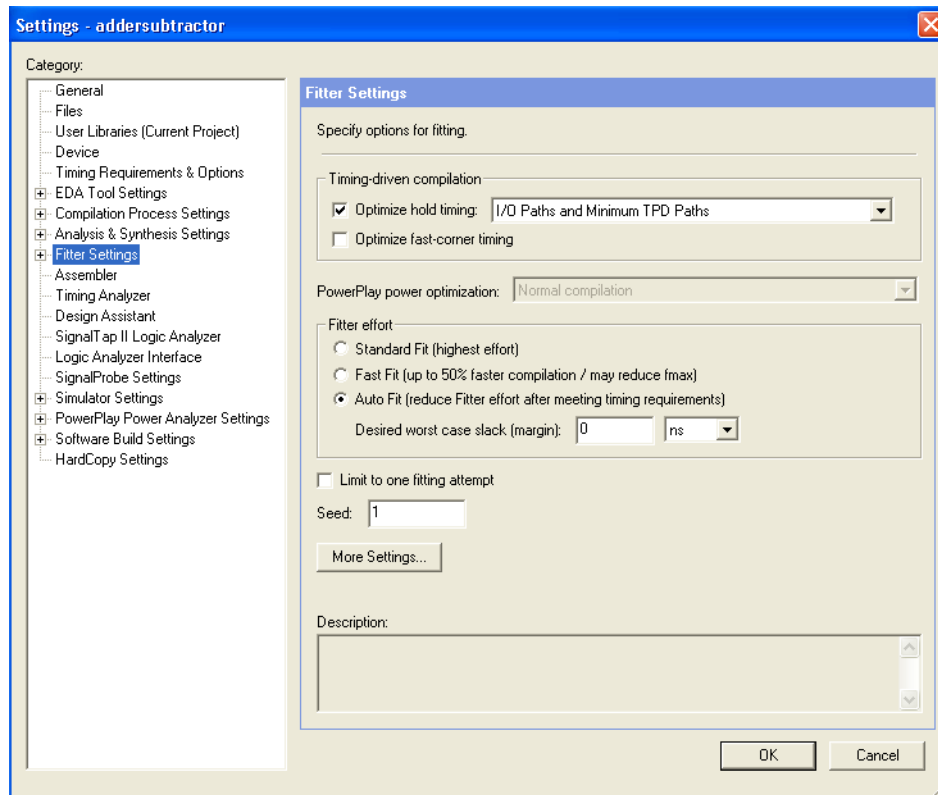

Figure 32: Fitter settings.
- Click **Assignments > Settings** and then select the category **Fitter Settings** which opens the window in Figure 32. Three different levels of effort can be given. Choose the **Auto Fit** option, which instructs the Fitter to stop as soon as it finds an adequate implementation. The **Fast Fit** option reduces the compilation time, but it may produce a lower *fmax*. The third option, called **Standard Fit**, forces the Fitter to produce the best implementation it can find; at this effort level the Fitter will exceed the user's timing requirements as much as it can, which often results in longer compilation time. Click **OK**, and recompile the circuit.